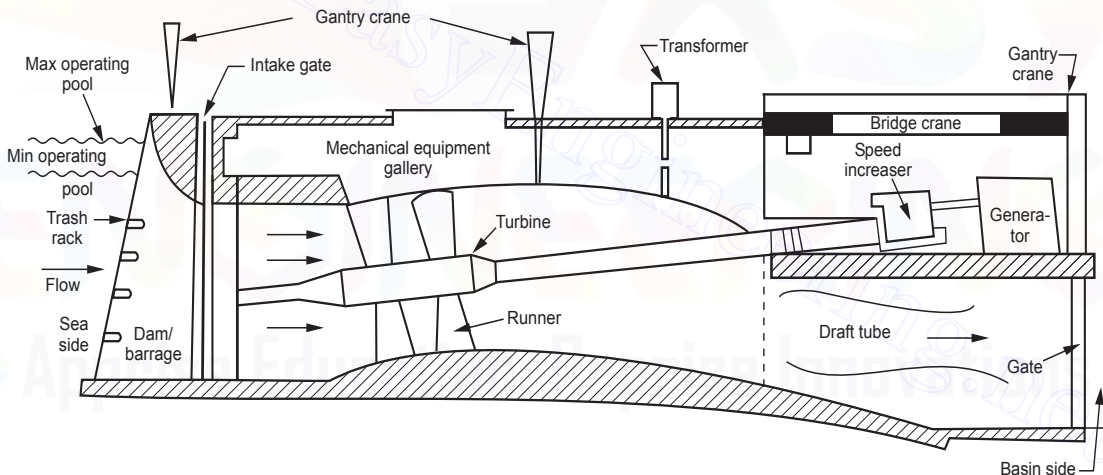

Fig 5.1.9 Schematic layout of tidal power house
- Fig 5.1.9 shows the Schematic Layout of Tidal Power House